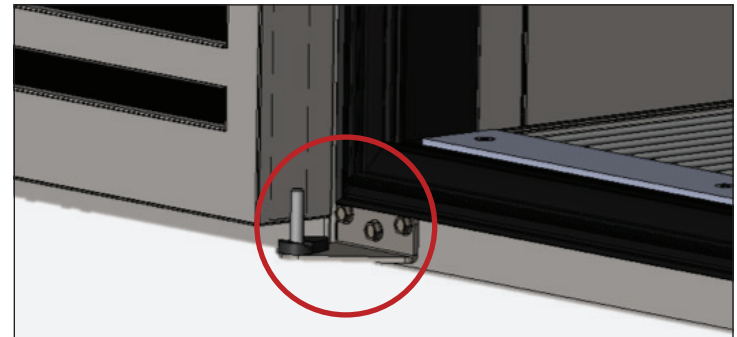

Fig. 3. Lift the door off the bottom hinge.
3. Remove the bottom hinge assembly from the appliance. See fig. 3.